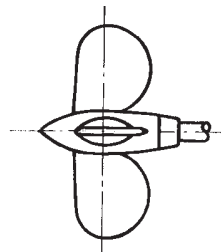

Fig. 7
- The propeller must never rotate as shown in figure 7.